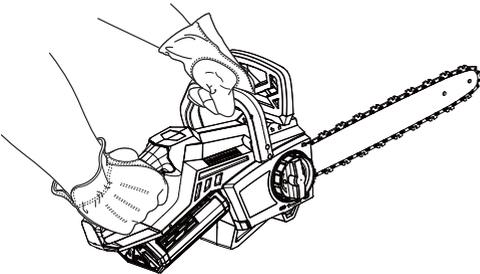

Fig. 5
- Hold the saw firmly with both hands. Always keep your left hand on the front handle and your right hand on the rear handle so that your body is to the left of the chain line (Fig. 5).